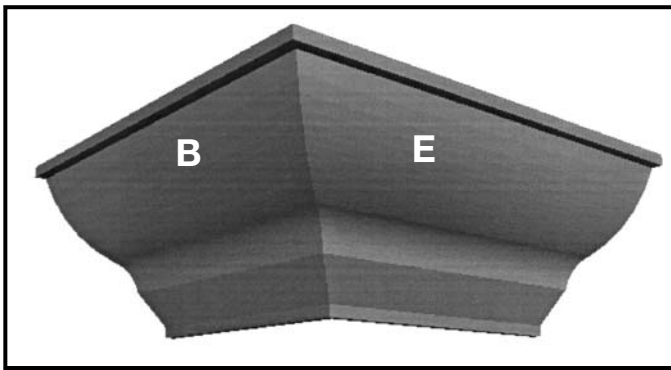

Fig. 36A
6. Fig. 36A illustrates the two outside corner pieces (B) and (E)